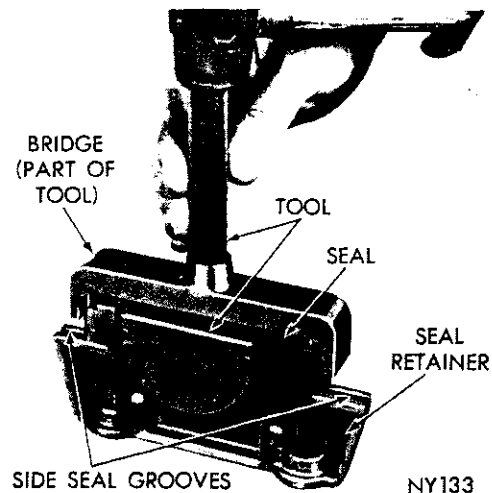
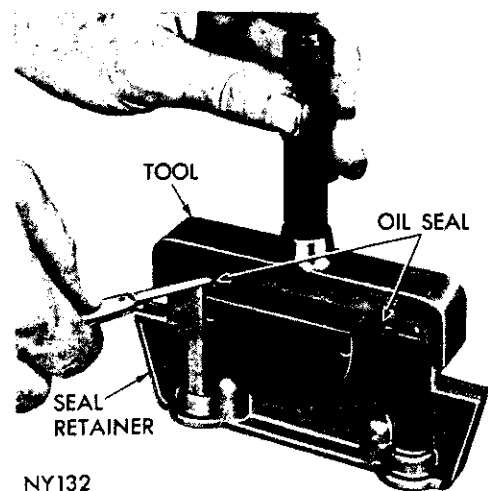

Fig. 44—Installing Rear Main Bearing Oil Seal
Fig. 45—Trimming Rear Main Bearing Oil Seal
- (1) Install a new seal in seal retainer so that ends protrude (Fig. 44).
- (2) Install the bridge on the tool and tap seal down into position until tool is seated.
(3) Trim off portion of seal that protrudes above cap (Fig. 45).
(4) Install two side seals in grooves in seal retainer.
(5) When installing seal retainer, tighten screws to 30 foot-pounds.